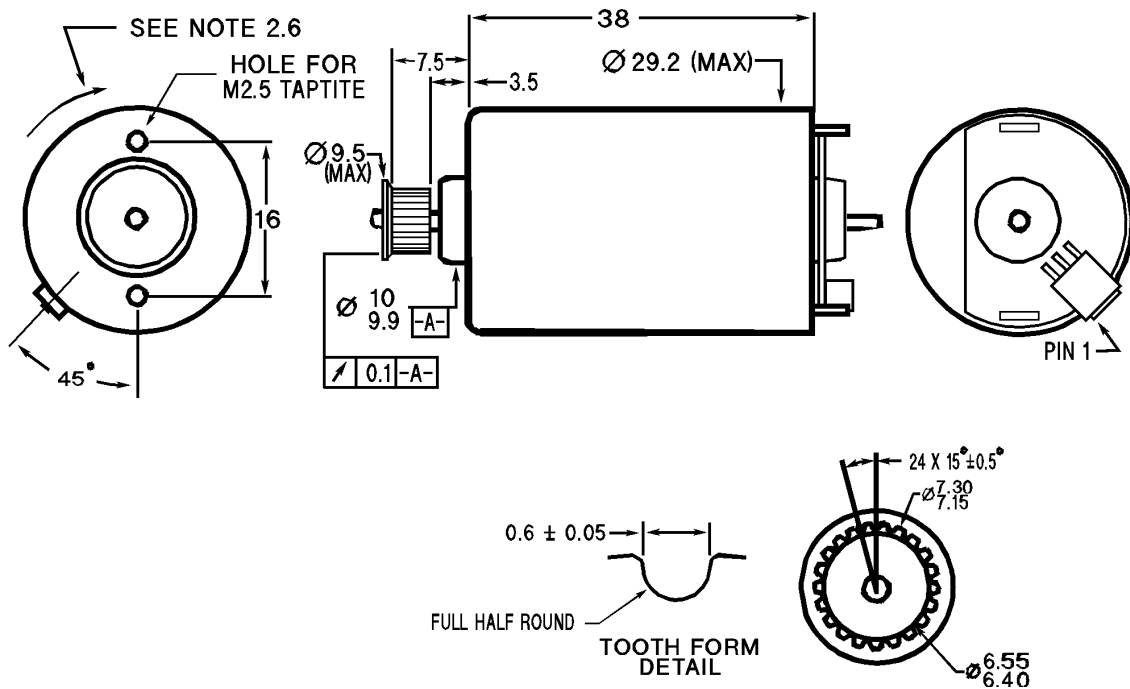

Figure 1 - Motor Assembly
- 2.1 Dimensions per Figure 1. All dimensions are in millimeters,  $\pm 0.3\text{mm}$  unless otherwise specified.